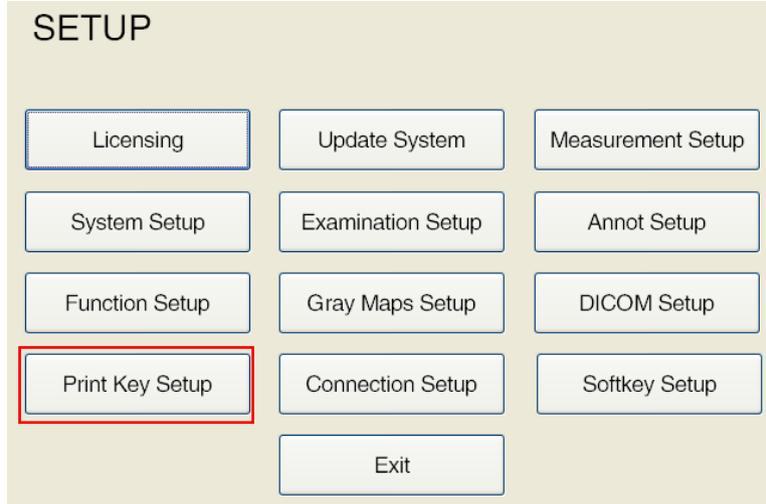

Fig. H-11 Main SETUP screen
- 1) Then tap **Setup** on the touchscreen of the ultrasound system to open the main SETUP screen, as shown in Fig. H-11.